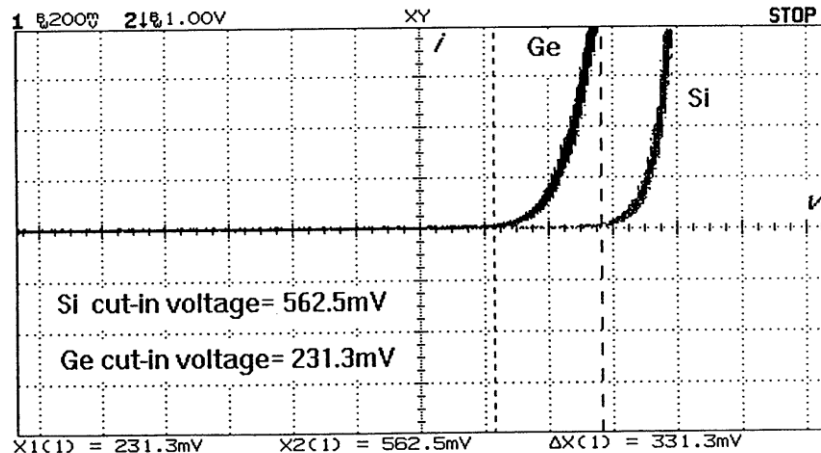

Fig. 7. Graph Illustrating the Differences between the Si and Ge Diodes
- The saved data can be viewed by press the Ref. Menu button. Your work should resemble Fig. 7.